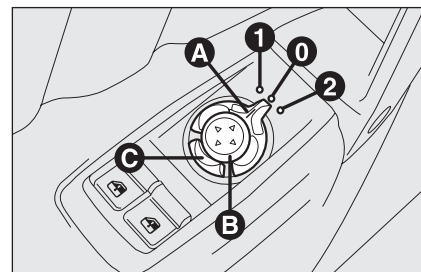

fig. 34
Use device **A-fig. 34** to select the required mirror:
When required (for example when the mirror causes difficulty in narrow spaces) it is possible to fold the mirrors by pressing button **C-fig. 34**.
To bring the mirrors back to driving position press again button **C-fig. 34**.
- turn selector **A-fig. 34** to **2** (to select the passenger door mirror);
Proceed as follows: fit the electronic key into the ignition device; engage reverse; turn selector **A-fig. 34** to **2** (to select the passenger door mirror).
The mirror will automatically return to its original position 10 seconds after disengaging reverse, when the car speed exceeds 10 km/h in forward gear or when turning selector **A-fig. 34** to **0**.